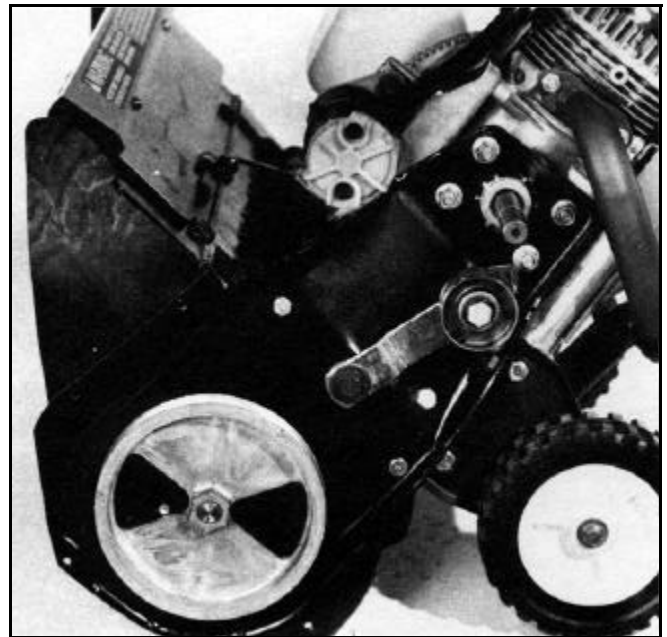

Figure 69
- Reassemble the idler assembly and attach it to the left side plate with shoulder bolt, washers, and nut (Figure 69). Tighten the nut firmly.